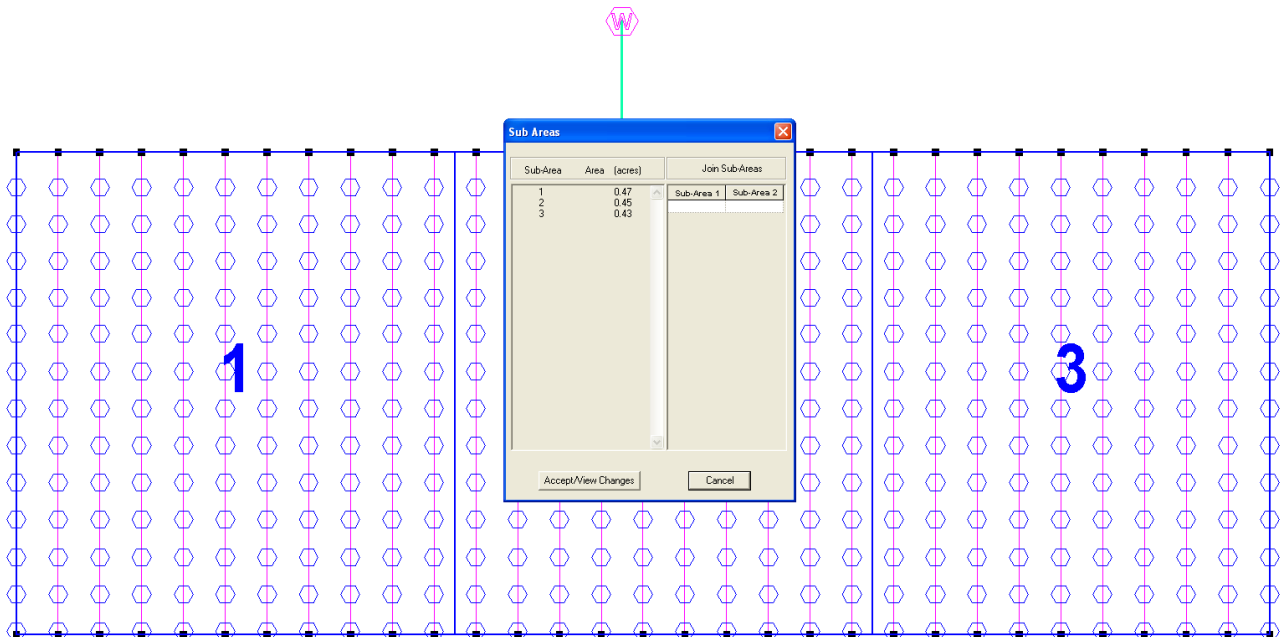

Figure SM 12
31. You may wish to view some of the design reports. As described previously the Zone Design Summary Report (*Reports|Zone Design Reports*), detailed in Figure SM 12, shows a summary of the pressure variation in the block.